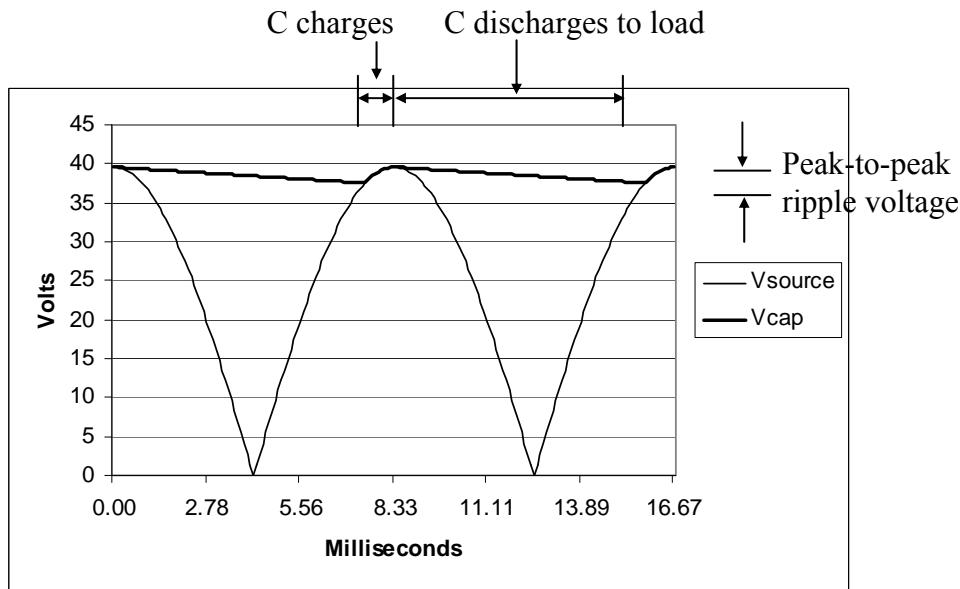

Figure 3. Impact of C on Load Voltage
the waveform for  $V_{dc}$  takes the form of  $V_{cap}$  in Figure 3.
As the load power increases, the capacitor discharges faster, the peak-to-peak ripple voltage increases, and the average dc voltage (i.e., the average value of the  $V_{cap}$  curve in Figure 3) falls. For zero load,  $V_{cap}$  remains equal to the peak of the rectified source voltage, and the ripple voltage is therefore zero.
For constant power cases, peak-to-peak voltage ripple can be computed using energy balance in the capacitor as follows. If the “C discharging” period in Figure 3 is  $\Delta t$ , where  $\frac{T}{4} \leq \Delta t \leq \frac{T}{2}$ , then the energy provided by C during  $\Delta t$  is
where  $V_{peak}$  and  $V_{min}$  are the peak and minimum capacitor voltages in Figure 3, and  $P$  is the DC load power (approx. constant). From (1),